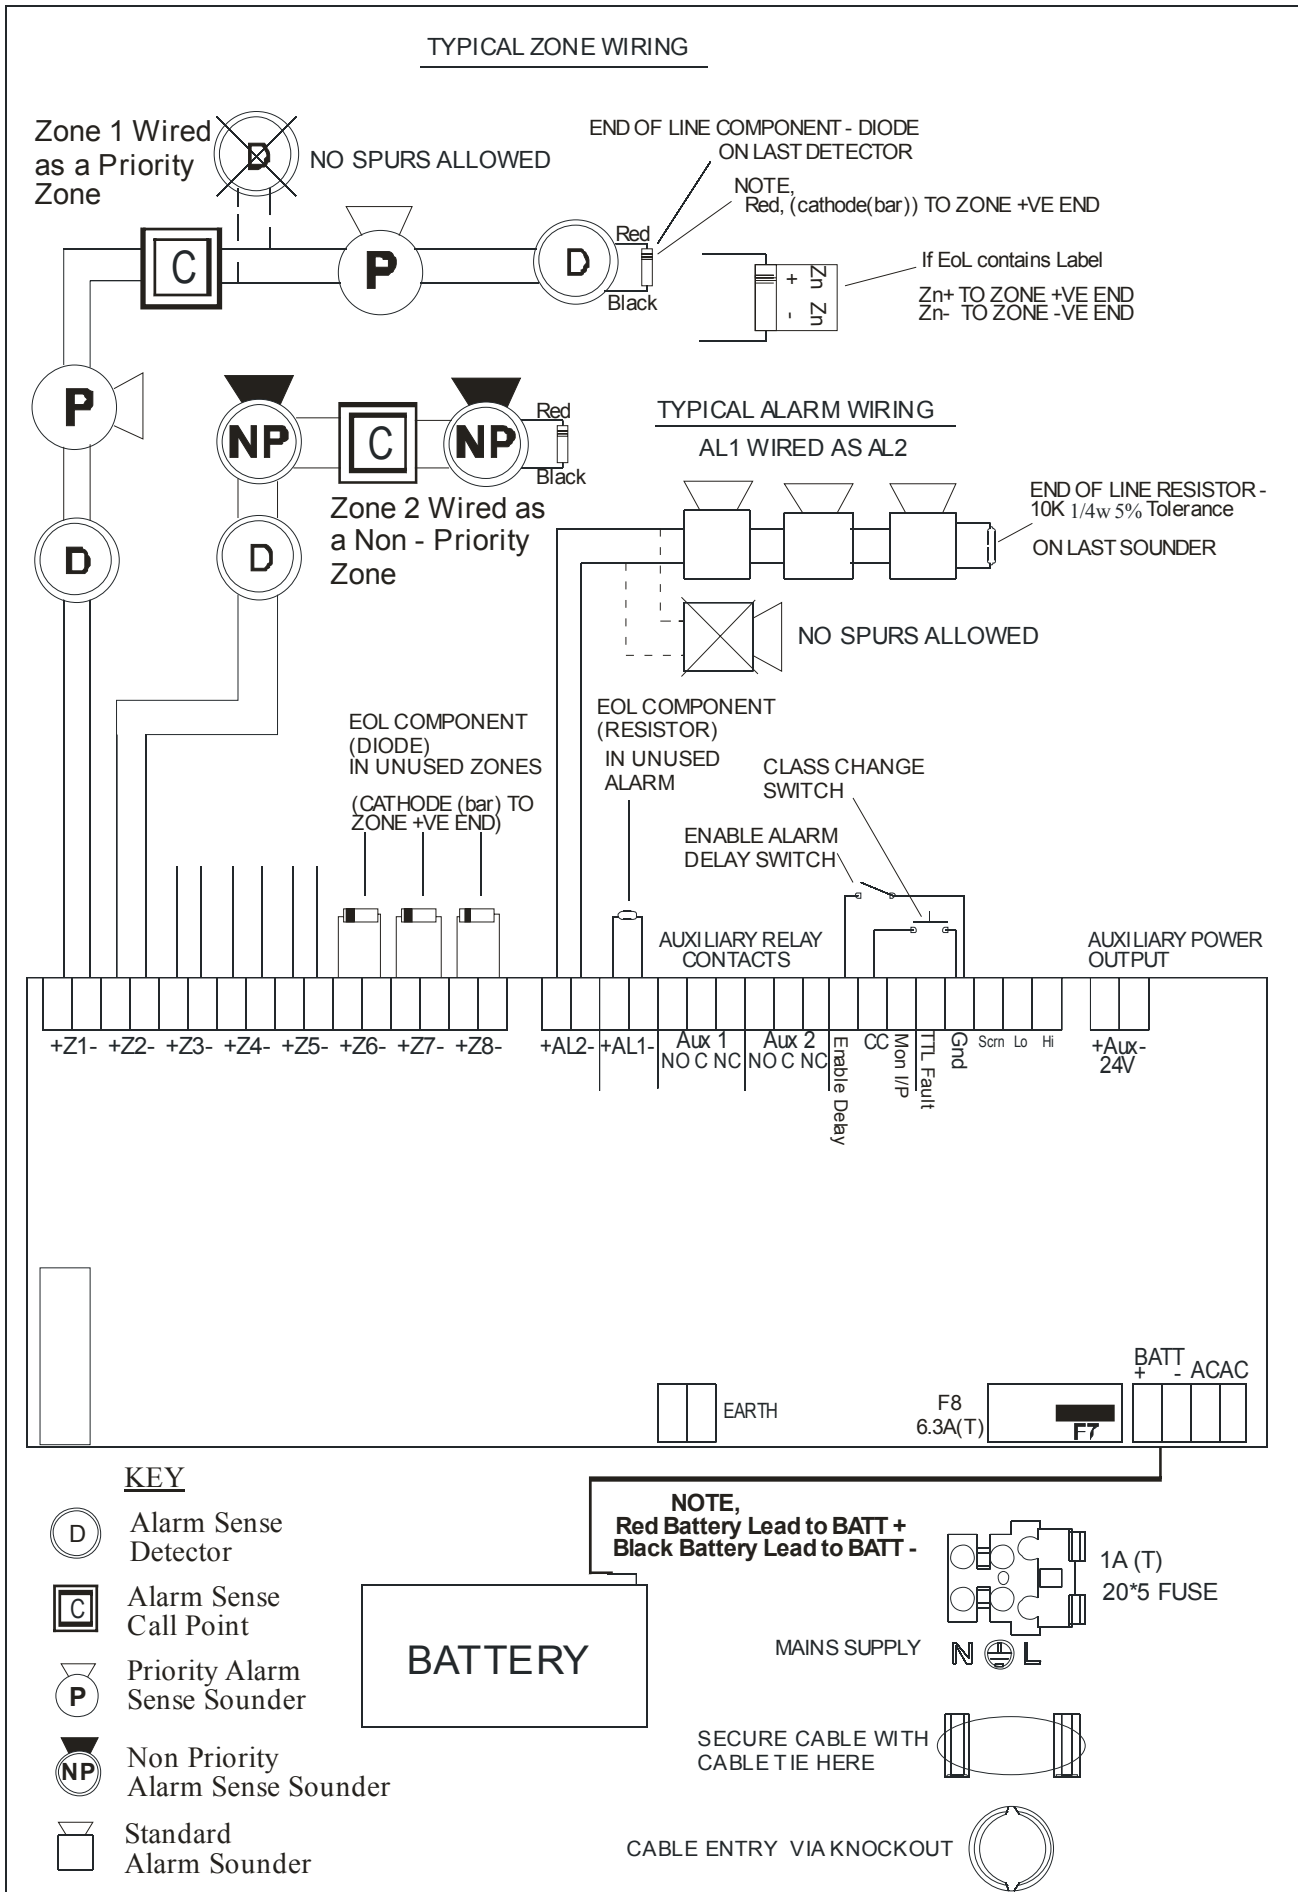

Figure 3. Typical Panel Wiring
- E) Connect the cables from the zones (detectors & zone sounders) and alarms (sounders) to the pcb as shown in Figures 1-3, ensuring that there are **NO** spurs from the main circuit. Fit the end-of-line component onto the last detector or call-point of each zone circuit ensuring that it follows the correct polarity – see Figure 3. The end-of-line resistor used on the alarm circuit can be connected either way round. For any unused circuits, leave the end-of-line component / resistor in the terminal block located on the pcb.